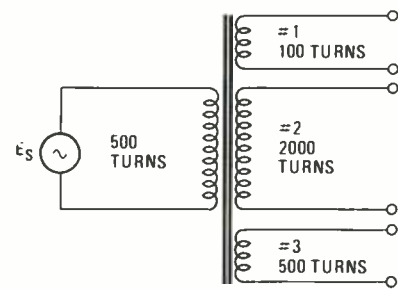

Fig. 18—A transformer can provide more than one output voltage by using multiple secondary windings. Each winding = can be wound for a specific voltage output.
57. (480) In that example, the turns ratio is $200/50 = 4/1$ or 4 to 1. That multiplies the primary voltage by 4. Therefore, the induced secondary voltage is 480 volts. With a turns ratio greater than one, the transformer steps up the voltage. In other words, the output voltage is higher than the input voltage by a factor equal to the turns ratio. *If $N_p = 300$, $N_s = 100$, and $E_p = 120$, then $E_s =$ _____ volts.*
58. (40) The turns ratio in that example is $100/300 = .333$ or 1 to 3. In that case, the secondary voltage is simply one-third of the primary voltage or $120/3 = 40$ volts. Here, the transformer is used to step down the voltage. One of the most common applications of a transformer is to increase or decrease the voltage level of an AC signal. *When a step-up transformer is used, the secondary voltage is _____ than the primary voltage.*
59. (higher) Transformers may have two or more secondary windings as shown in Fig. 18. Each secondary winding has its own turns ratio with the primary. Both step-ups and step-downs can be obtained on the same transformer. *In Fig. 18, the output voltage from the secondary winding #3*